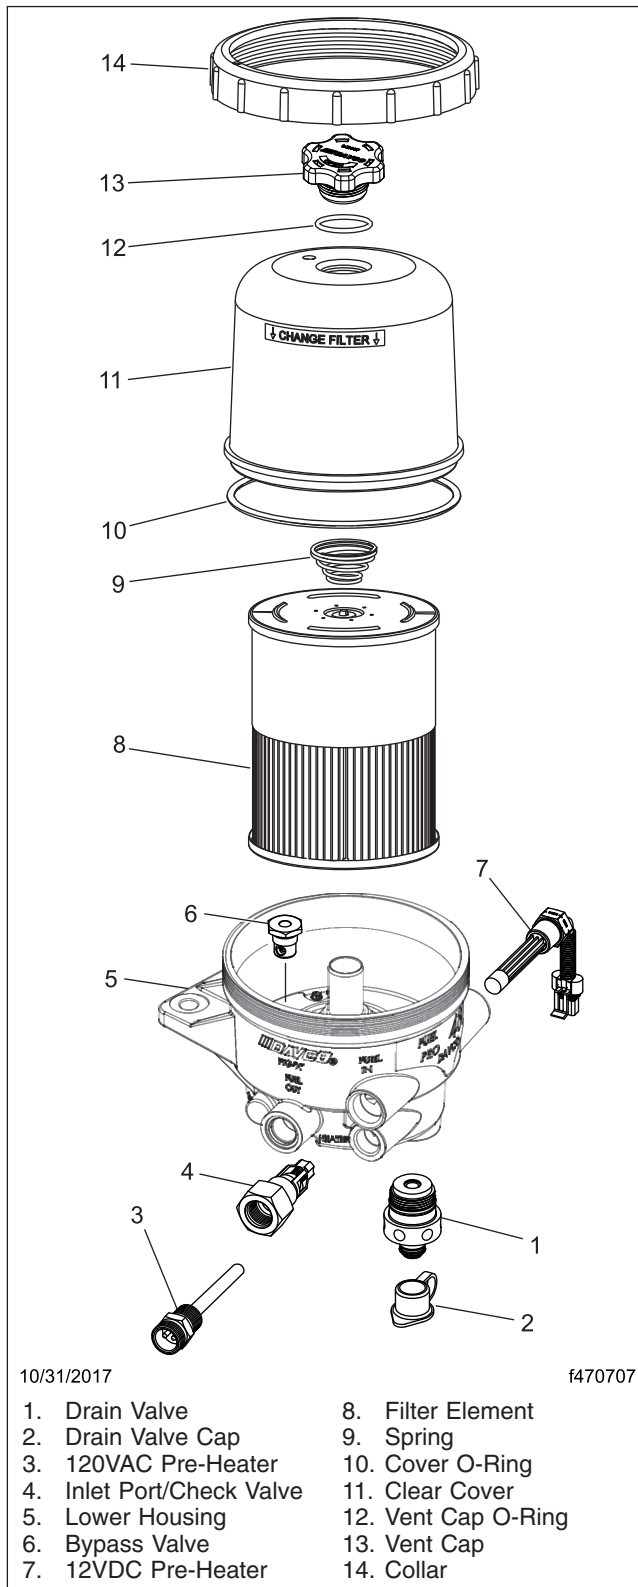

Fig. 5, DAVCO Fuel Pro 487
4. Remove the vent cap, shown in Fig. 5, to drain the fuel completely, then close the drain valve.
6. Remove the filter, cover O-ring, and vent cap O-ring. Dispose of them in an environmentally acceptable manner. See **Fig. 5**.